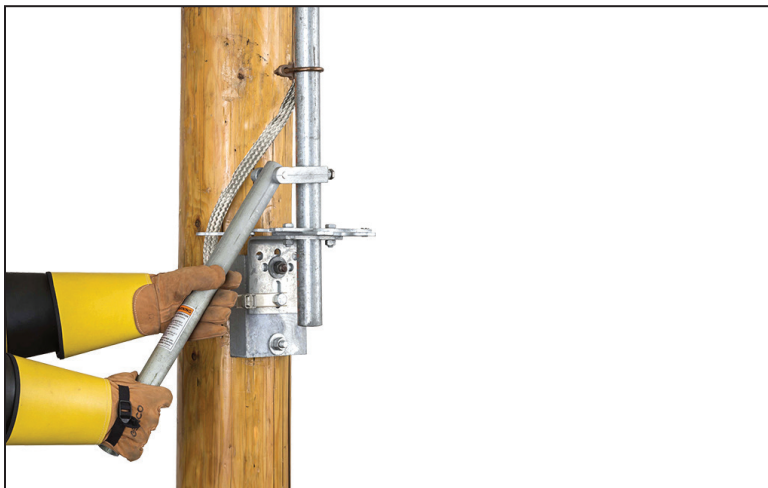

Figure 27. Move the handle into the Open position.
- (d) Push the handle into the **Closed** stop position. It should take significant force to secure the handle into the closed stop. The handle will be firmly pressed against the left side of the closed stop plate. This pressure will hold the torque in the pipe, creating the desired windup. Move the handle into the **Open** position to verify it fits into the open stop plate. See Figure 27.